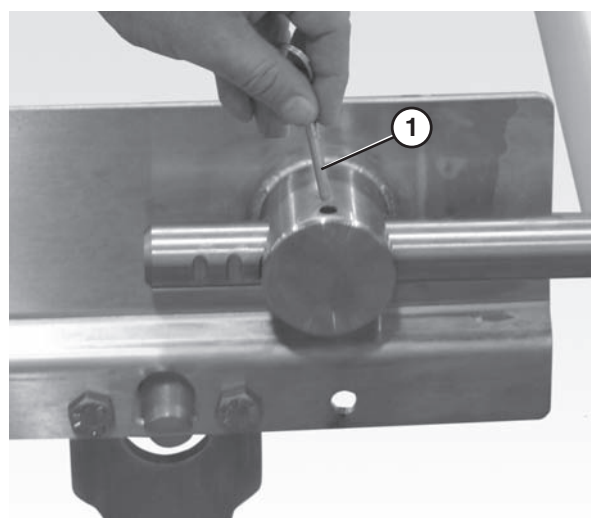

Figure 58
1. Remove the pull pins (**Figure 58, item 1**) on the tension end of the conveyor to release tension on the belt.
1. Remove the pull pins (Figure 58, item 1) on the tension end of the conveyor to release tension on the belt.